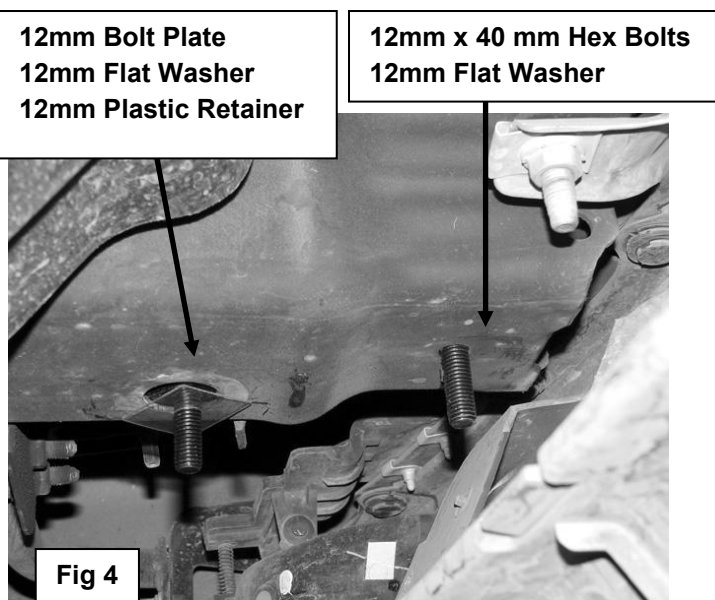

Fig 4
4. Insert (1) 12mm Bolt Plate with (1) 12mm Flat Washer into the open end of the frame channel and out the rearmost hole in the bottom of the frame, **(Figure 4)**.
5. Select the driver side Mounting Bracket. Line up the rear hole in the Mounting Bracket with the Bolt Plate. Secure the Bracket to the Bolt Plate with (1) 12mm Flat Washer, (1) 12mm Lock Washer and (1) 12mm Hex Nut. Insert (1) 12mm Hex Bolt with (1) 12mm Flat Washer into the open end of the frame and down through.